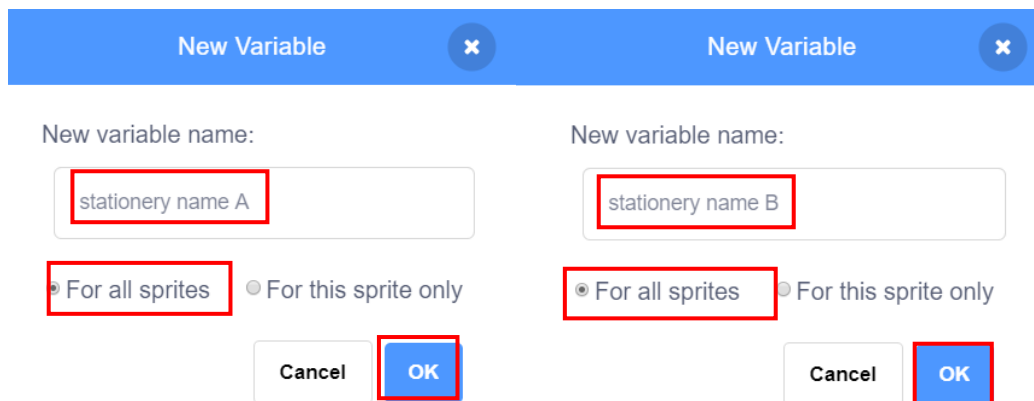

Figure 4.17 Creating the variable
Step 6: Create a variable, and name it *stationery name A* and *stationery name B*, as shown in Figure 4.17, as shown in Figure 4.17.